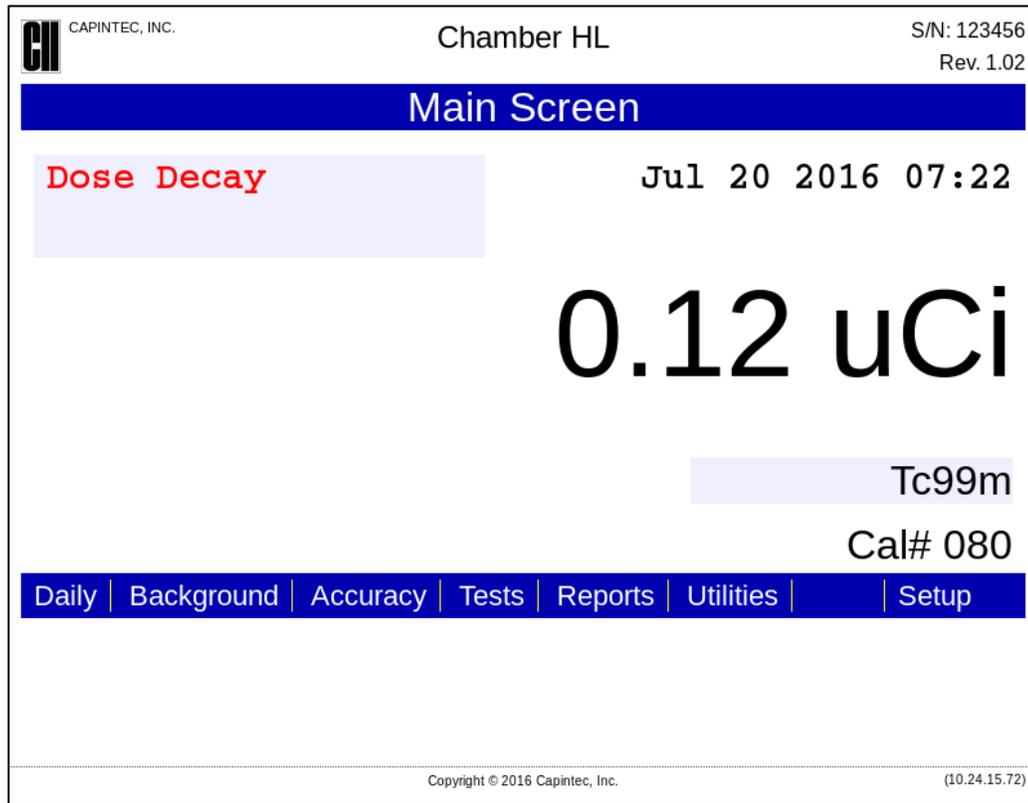
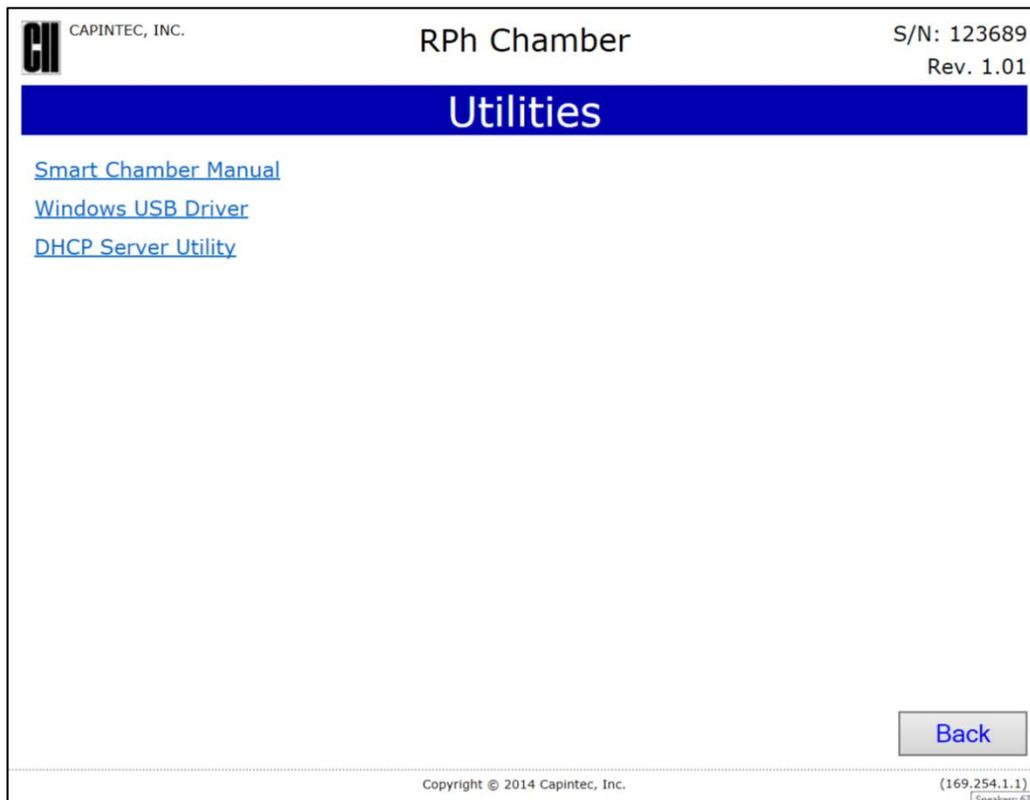

Figure 4-5 Main/Measurement Screen
Figure 4-8 Utilities Screen
6. After a few seconds, Figure 4-5 Main/Measurement Screen will appear.
4. After a few seconds, Figure 4-5 Main/Measurement Screen will appear.
To access the Utilities Screen, click the **Utilities** button on Figure 4-5 Main/Measurement Screen. Figure 4-8 Utilities Screen will appear.